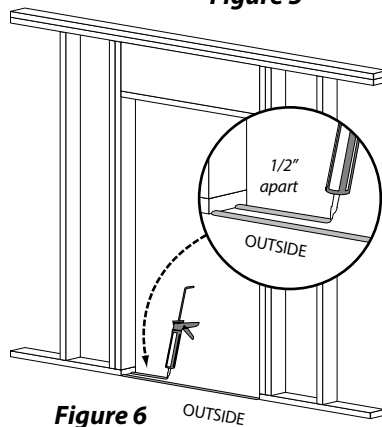

Figure 6
- Put a generous bead of caulk along the outside edge of the subfloor and another 1/2" in from the first (figure 6). Be sure the caulking bead creates a seal between the door sill and the subfloor to prevent any water infiltration.